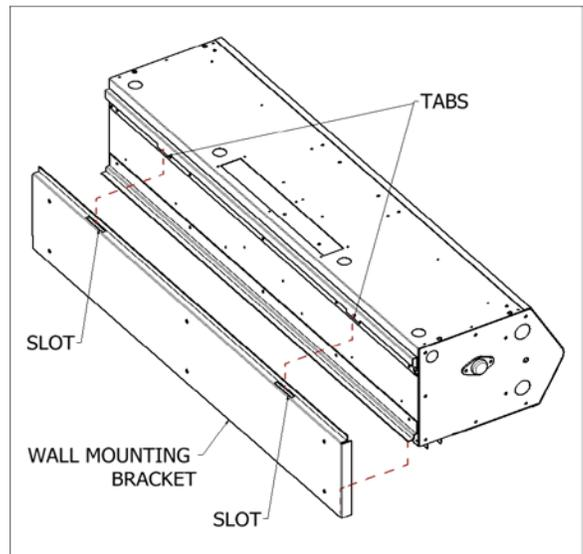

FIG. 2
4. Align the tabs on the rear of the unit with the slots provided on the wall mounting plate (FIG. 2). The